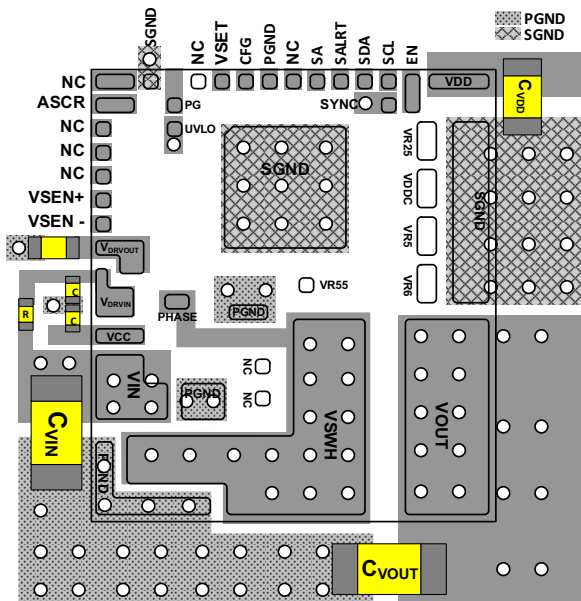

Figure 27. Recommended Layout - Top PCB Layer
- For  $V_{DD} > 6V$ , the recommended PCB layout is shown in Figure 27. Leave V25, VDDC, VR5, and VR6 as “No Connect”.